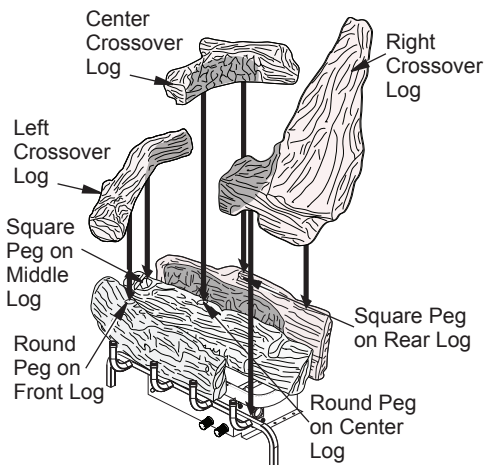

Figure 20 - Installing Left, Center and Right Crossover Logs
4. Place left crossover log as shown in Figure 20, page 18. Match square peg on top of center log with square hole on bottom of left crossover log. Match pin on top of front log with round hole on bottom of left crossover log.
- Place center crossover log as shown in Figure 20, page 18. Match square peg on top of rear log with square hole on bottom of center crossover log. Match pin on top of center log with round hole on bottom of center crossover log.
- Place left front crossover log as shown in Figure 20. Log should rest on the grate and fit into recess area on the center log.